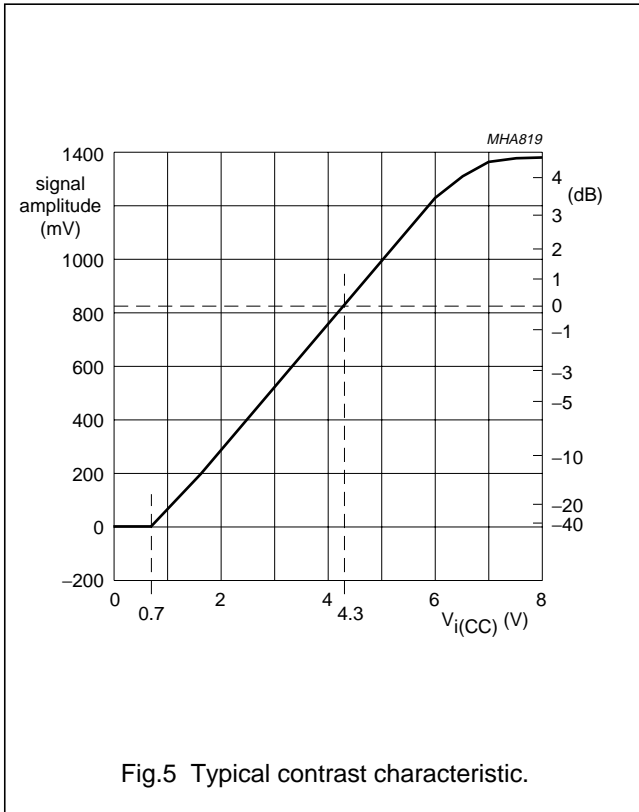

Fig.5 Typical contrast characteristic.
- Linear control range is 1 to 6 V for $V_{i(CC)}$, independent of supply voltage. Open pin 6 leads to absolute maximum contrast setting. It is recommended not to exceed $V_{i(CC)} = V_P - 1 \text{ V}$ to avoid saturation of internal circuitry. For $V_{i(CC)} < V_{i(CC)(min)} \approx 0.7 \text{ V}$ a small negative signal ($\approx -40 \text{ dB}$) will appear. For frequency dependency of contrast control see note 14. Typical contrast characteristic see Fig.5.